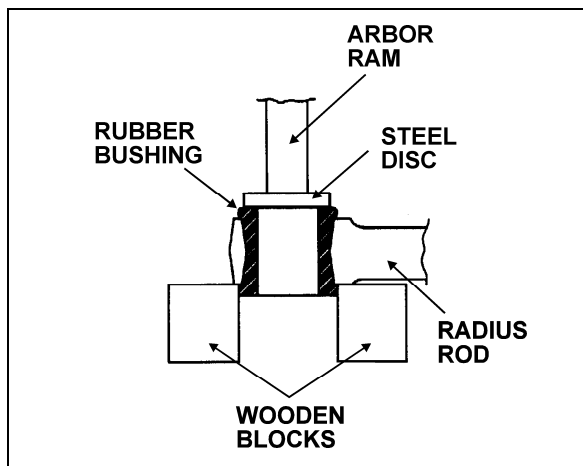

FIGURE 47: RADIUS ROD BUSHING REMOVAL
1. Safely support the radius rod as shown in figure 47.
2. Place a flat steel disc, slightly smaller than the outside diameter of the bushing (Fig. 47).